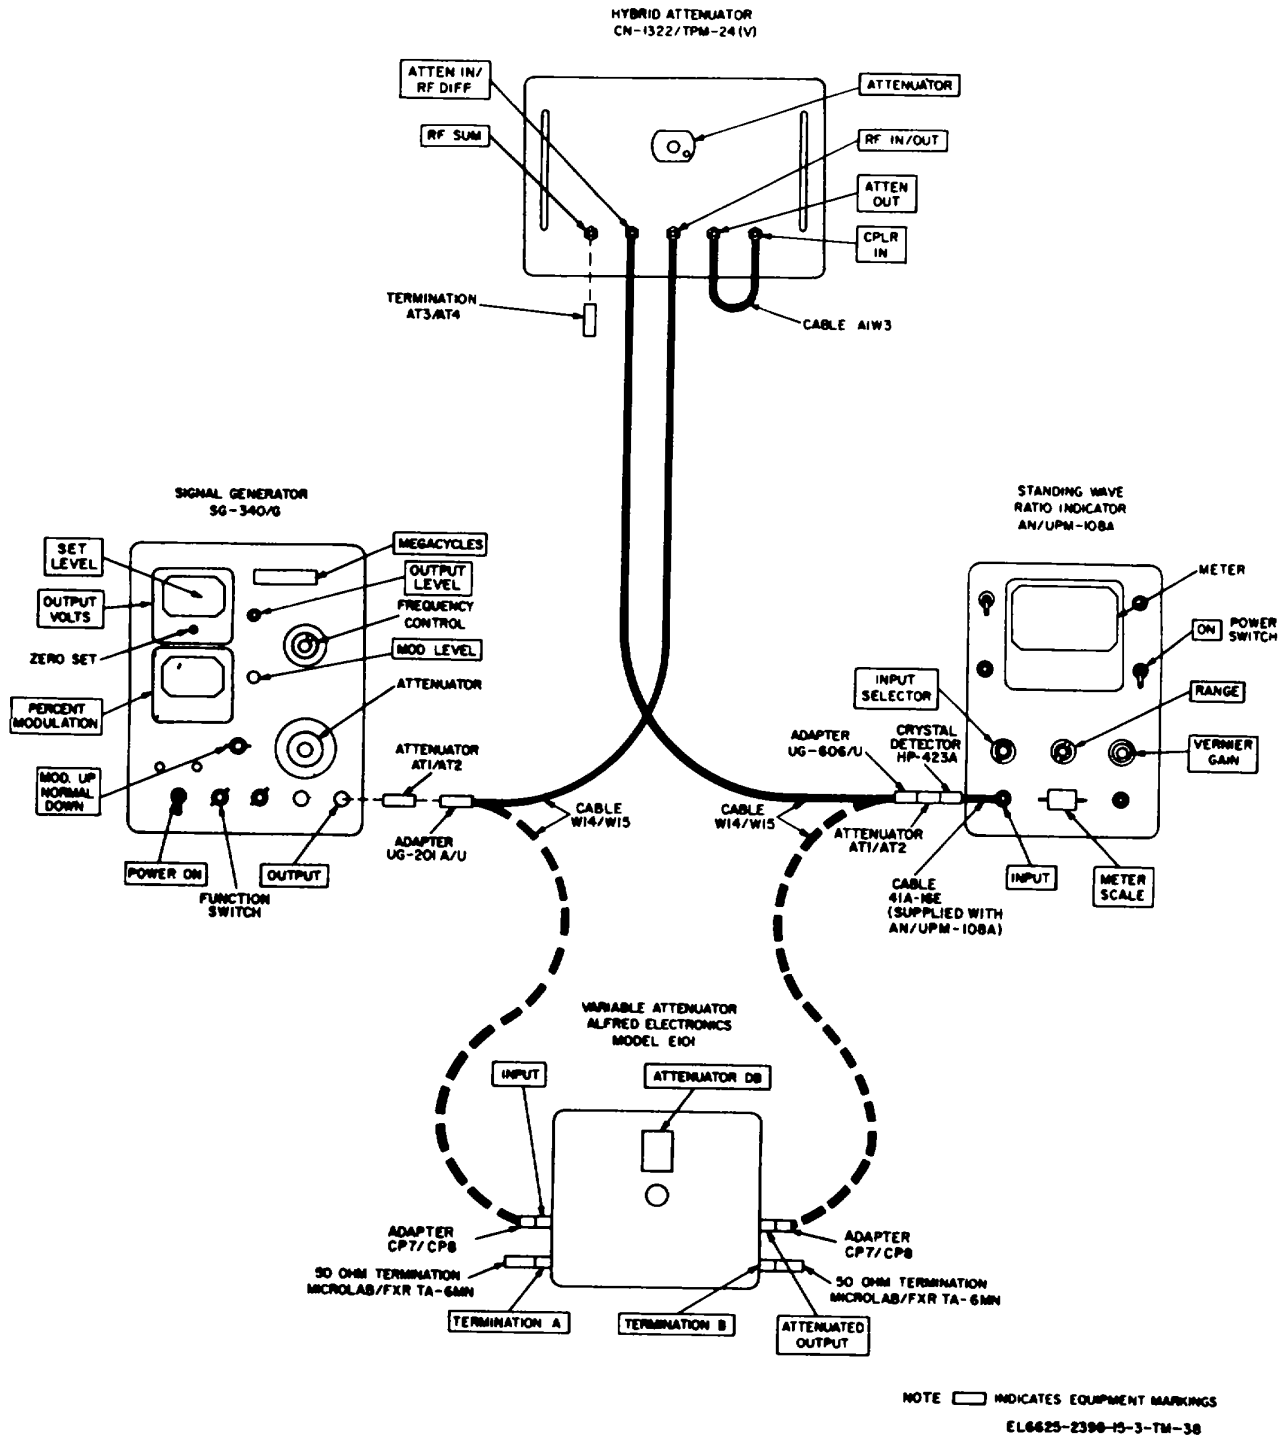

Figure 8-4. Hybrid Attenuator insertion loss measurement between RF IN/OUT and ATTEN IN/RF DIFF connectors, test connections.
- (3) Standing Wave Ratio Indicator AN/UMP-108A.
- (4) Crystal Detector HP-423A.
- (5) Adapter UG-201A/U.
- (6) Adapters CP7/CPS(2).
- (7) Fixed Attenuators AT1/AT2(2).
- (8) Termination AT3/AT4(1).
- (9) 50ohm Terminations (2), Microlab/FXR TA-6MN.
- (10) Cables W14/W15(2).
- (11) Cable A1W3.
- (12) Adapter UG-606/U.
*b. Test Connections and Conditions.* Initially connect the equipment as shown in solid lines, figure 8-4. Disconnect the hybrid attenuator and connect the variable attenuator (connections shown in broken lines) as directed in the procedure below.